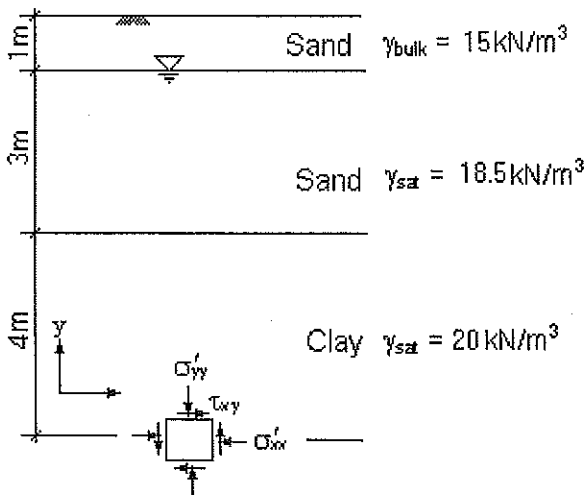

Fig. B1
1. Fig. B1 shows an element of clay located at a depth 8m from the surface.